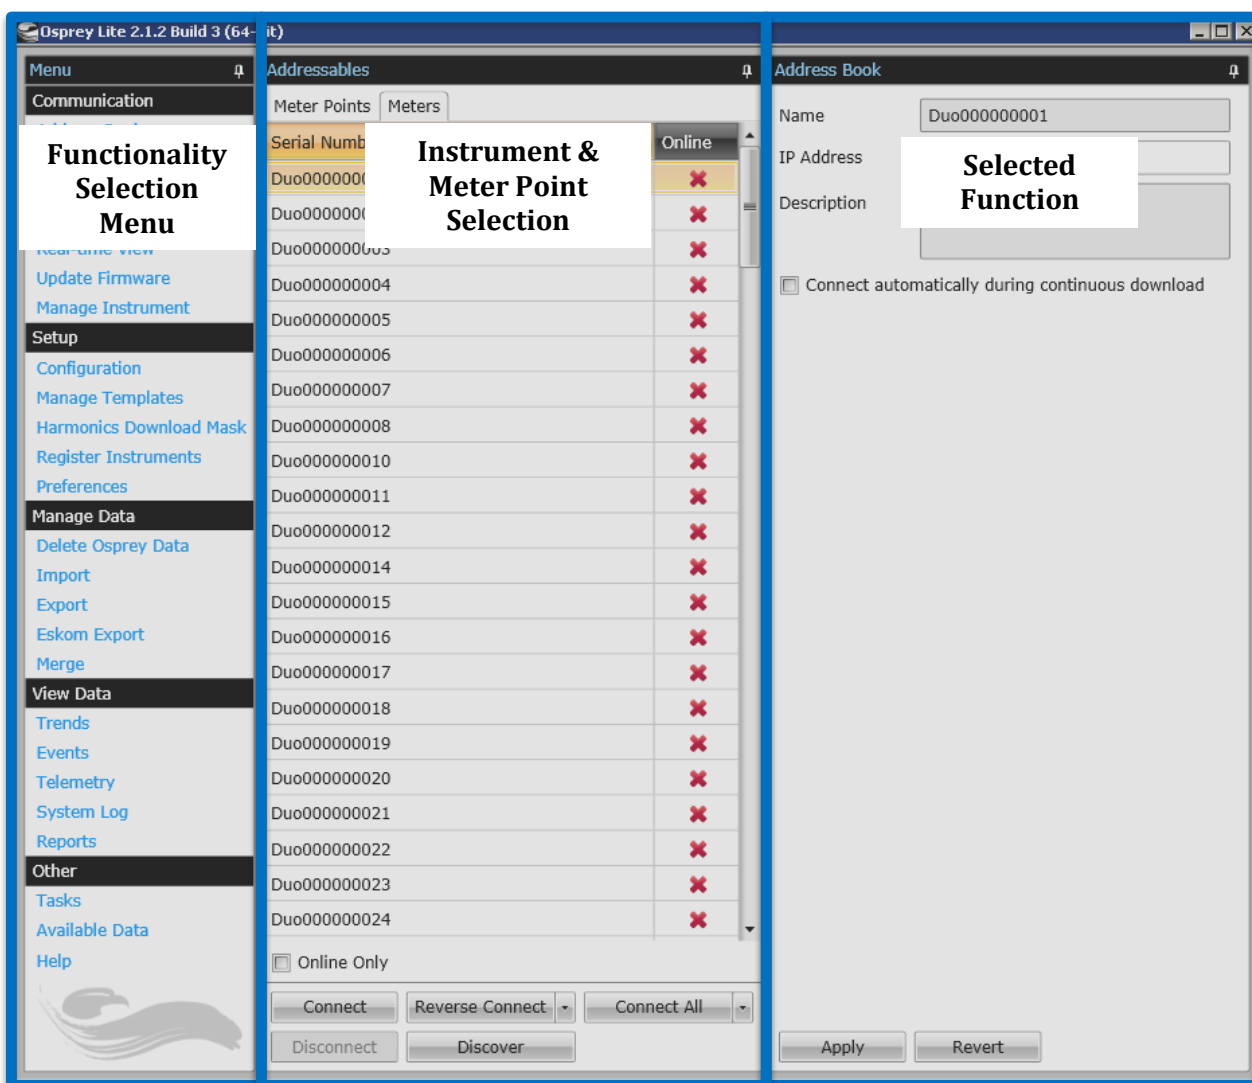

Figure 2: Typical Osprey Lite layout
A typical Osprey Lite layout configuration is shown in Figure 2. The left panel is used to navigate the application and select a specific type of function, for example data download or trend viewing. Most functions have a middle view, where the meter point or instrument to which the function applies is selected. The right panel contains the details of the selected function.
- 1) Open Osprey Lite and select **Setup → Register Instruments** using the navigation menu on the left (see Figure 2).